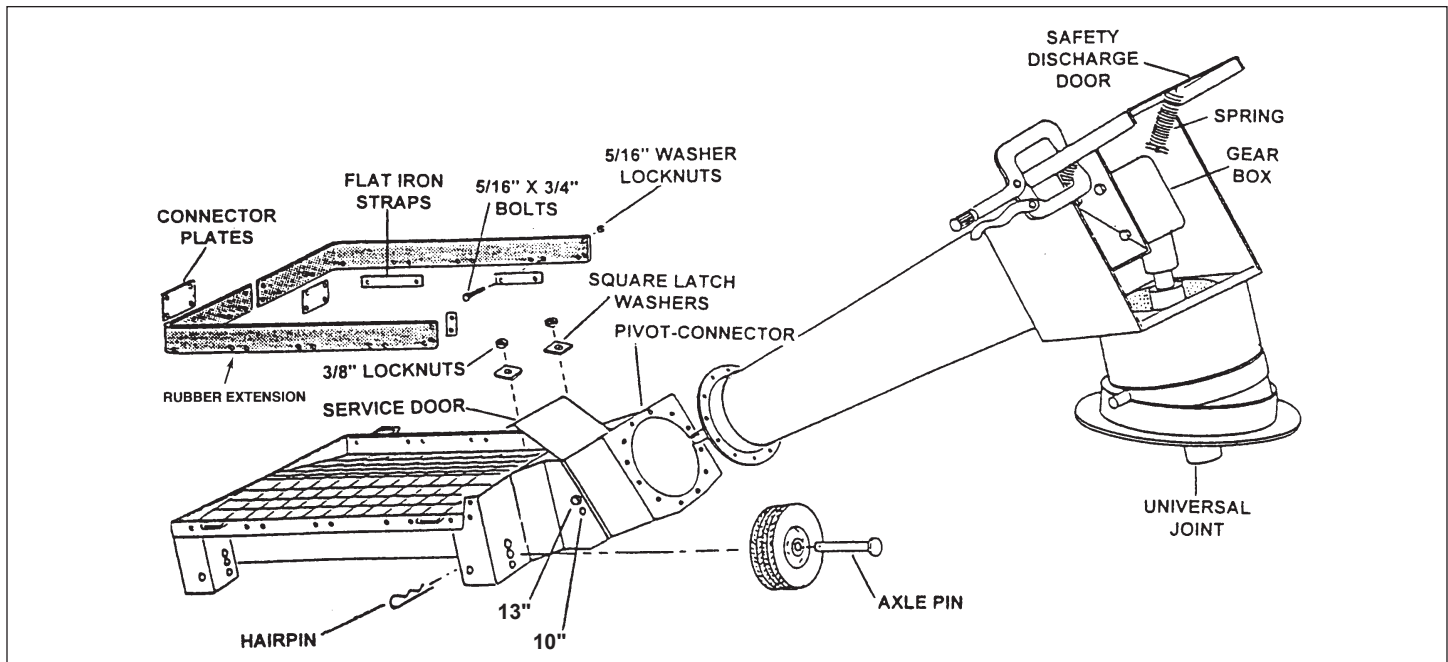

Figure No. 2
1. Attach the pivot-connector to appropriate 10" or 13" holes in hopper with two 5/8" x 1-1/2" bolts and locknuts (see **Figure No. 2**). DO NOT OVERTIGHTEN, tighten snug only as these bolts act as pivot points.
7. Attach the two piece rubber extension to inside of hopper lip with 5/16" x 3/4" bolts and washer locknuts and flat iron straps provided plus the two piece extension connector plates. (See **Figure No. 2**)
8. Attach the four pneumatic wheels to the four hopper corners with the axle pins and hairpins. The offset portion of the wheel must rest against the hopper. You have a choice of three height settings. (See **Figure No. 2**)